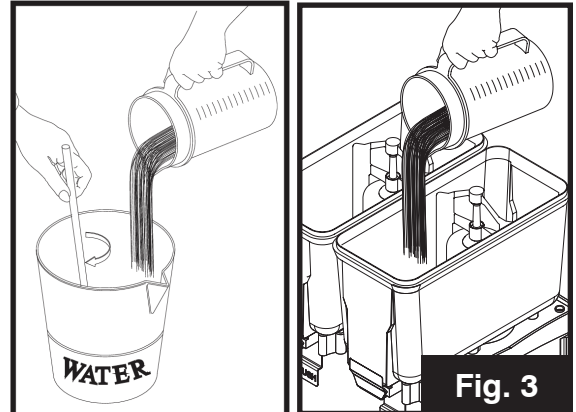

Fig. 3
2. Pour liquid into the bowl. (Fig. 3)